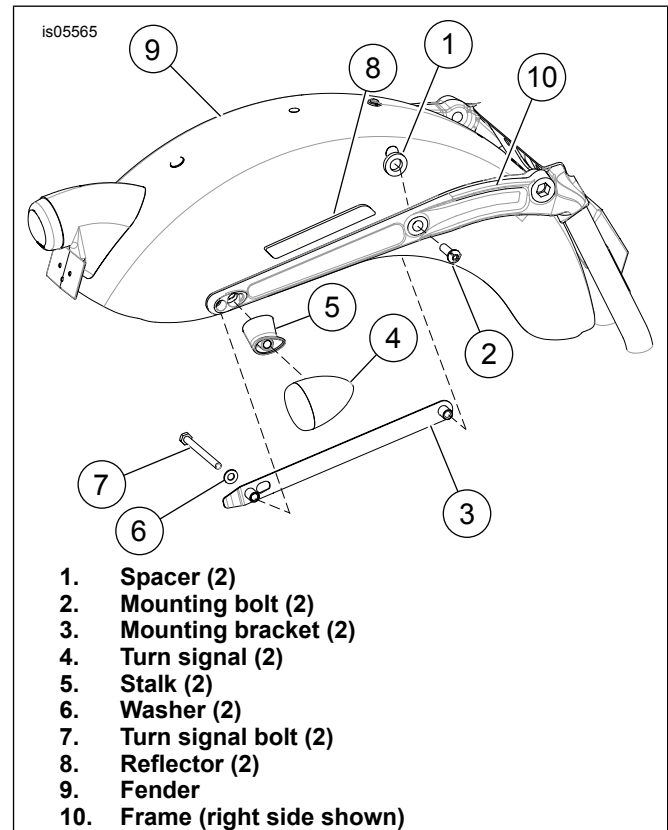
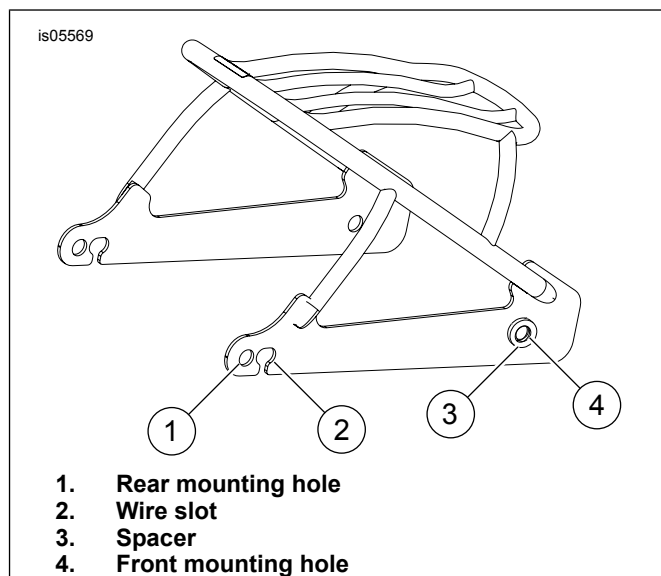

Figure 1. Remove Fender Components
Figure 3. Rack Mounting
1. See Figure 1. Remove the reflector (8) from the rear fender. Use dental floss (or equivalent) and a sawing motion if necessary to remove reflector. Repeat for the other side.
5. See Figure 1. Remove the turn signal bolt (7) and lower the turn signal (4) and stalk (5) as an assembly. Repeat for other side.
6. Remove the mounting bolt (2). **For Non-FXDB Models:** Remove the fender strut cover. Repeat for other side.
7. Support the fender (9) and remove the mounting bracket (3) from inside the fender. Gently lower the fender away from the frame (10) being careful not to damage the paint. Squeeze the fender slightly if necessary to lower the fender between the arms of the frame.
9. Remove the spacers (1) from the fender. If necessary, use dental floss or equivalent to remove the spacers.
1. See Figure 3. Install the spacer (3) on the outside of the front mounting hole of the rack (4). There should be enough adhesive residue to allow the spacer to temporarily adhere to the rack. Repeat for the other side.
2. Gently position the rack inside the frame. Verify that the spacers are still aligned with the mounting holes (4) and the turn signal wires are routed through the slots of the rack (2). Insert two dowel pins through the mounting holes in the rack, through the spacer and frame to hold the rack in place. Insert two dowel pins into the rear mounting holes (1) and through the frame. Do not pinch the turn signal wires with the dowel pins.
4. See Figure 1. Install the mounting bracket (3) from the inside of the fender and align with the dowel pins. Push the legs of the mounting bracket through the mounting holes and plastic sheeting or bag, driving the dowel pins out.
5. **For Non-FXDB Models:** Install fender strut cover and mounting bolt (2). Tighten the mounting bolt finger-tight. Repeat for other side. **For FXDB Models:** Install the mounting bolt and tighten finger-tight. Repeat for other side.
6. Install the turn signal bolt (7), washer (6) and turn signal stalk (4) and assembly (5). Tighten bolt finger-tight.